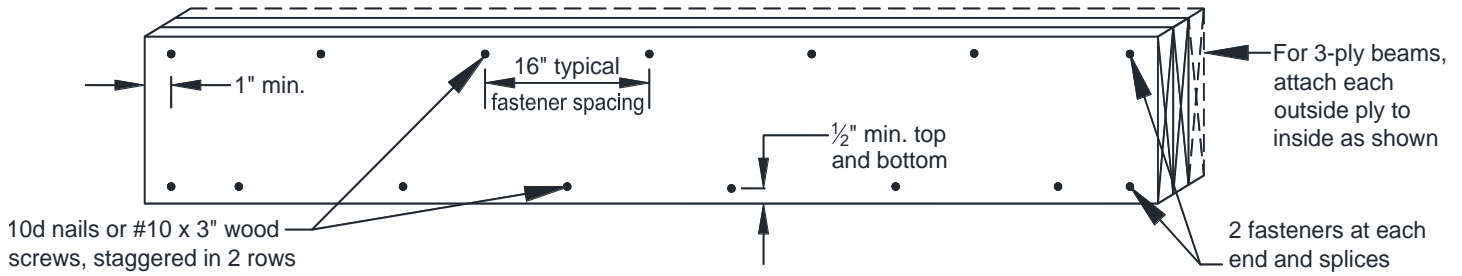

FIGURE 15: BEAM PLY FASTENING
- The plies of the beam shall be fastened in accordance with FIGURE 15.